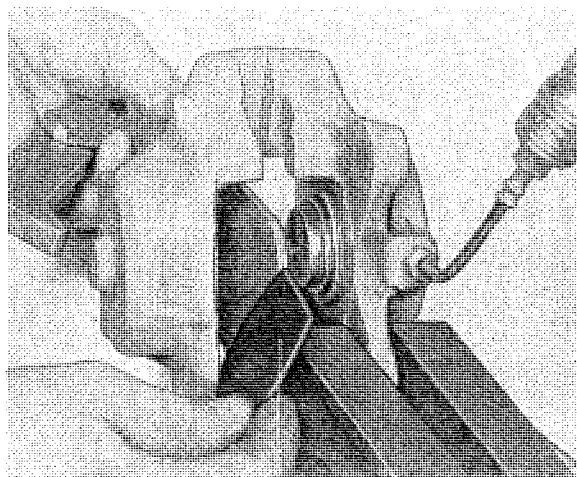

Fig. 5-28. Removing piston
against the wood with the help of compressed air, see Fig. 5-22. The pistons can then be easily removed. Should any piston be so stiff that more pressure is required, connect up an air line, see Fig. 5-28. Lever off the rubber dust covers.
4. Install rubber covers on plunger and housing. Install lock rings, compare Fig. 5-28.
If any piston is so stiff that greater pressure is required, connect up an air line, see Fig. 5-28. If one of the pistons has been removed, the cylinder can be sealed with a rubber washer and 2809 (see Fig. 5-28).